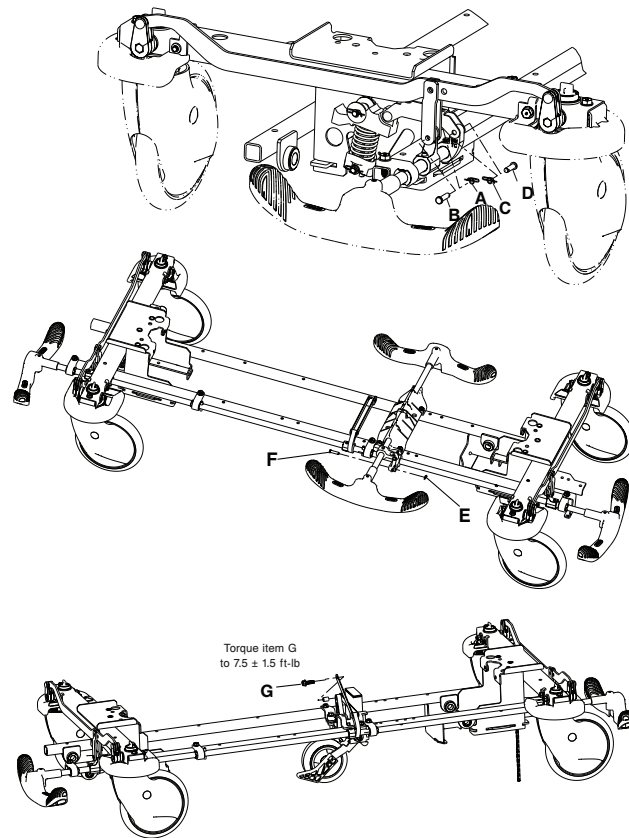

Figure 7 – Replace the brake rod
5. Using needle nose pliers, remove the rue ring cotter (A) and clevis pin (B) that secure the head end brake link assembly to the brake activation crank (Figure 7). Remove the brake rod crank cap. Save all parts.